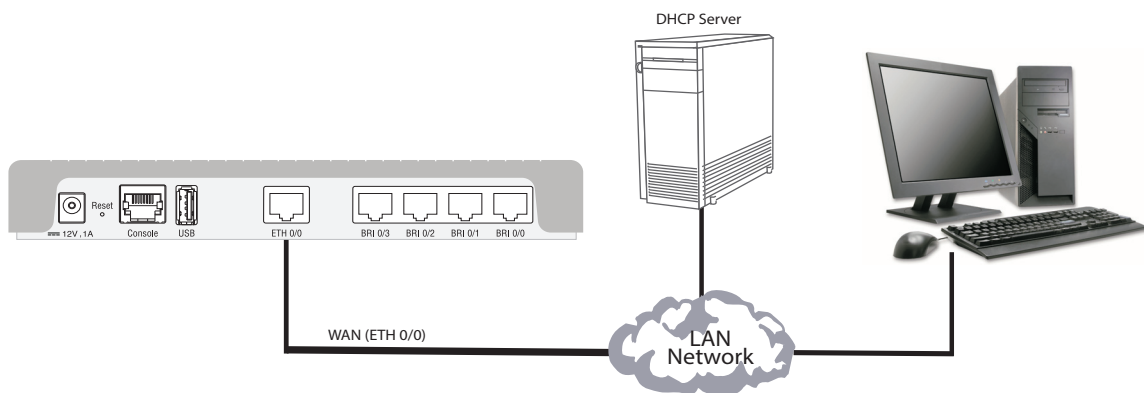

Figure 8. Connecting SN4130 and PC to LAN network with DHCP server.
2. The SmartNode is connected to a network with a DHCP server running, which assigns an IP address to the SmartNode. Using the *SN Discovery tool*, the SmartNode's IP can be determined. (see figure 8 on page 29).